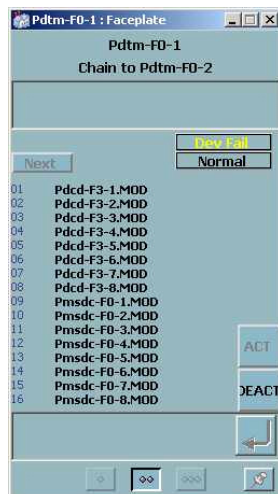

Figure 207. DTM Module
**Discrete Device Test Module (DTM).** The Discrete Device Test module faceplate identifies multiple Discrete Control Devices used for fault state checking in an 800xA for DCI controller. The DTM is used for sequential operations where different steps or phases have different expected states for the same operational equipment. The DTM module reports 16 DCD names, the activation state for performing the test, and alarm status that is used for display in the faceplate. Figure 207 shows the layout of the DTM normal sized faceplate and its attributes.